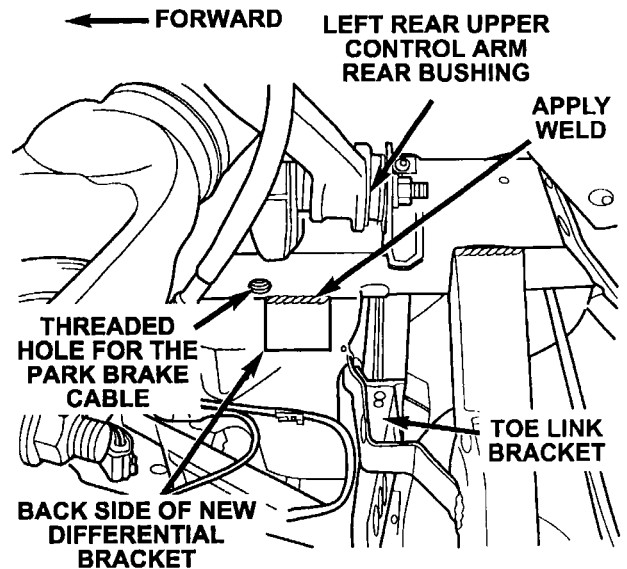

Figure 30 – View from Left Rear Wheel Opening
16. Apply a weld where the backside of the differential bracket meets the bottom of the frame rail (Figure 30).